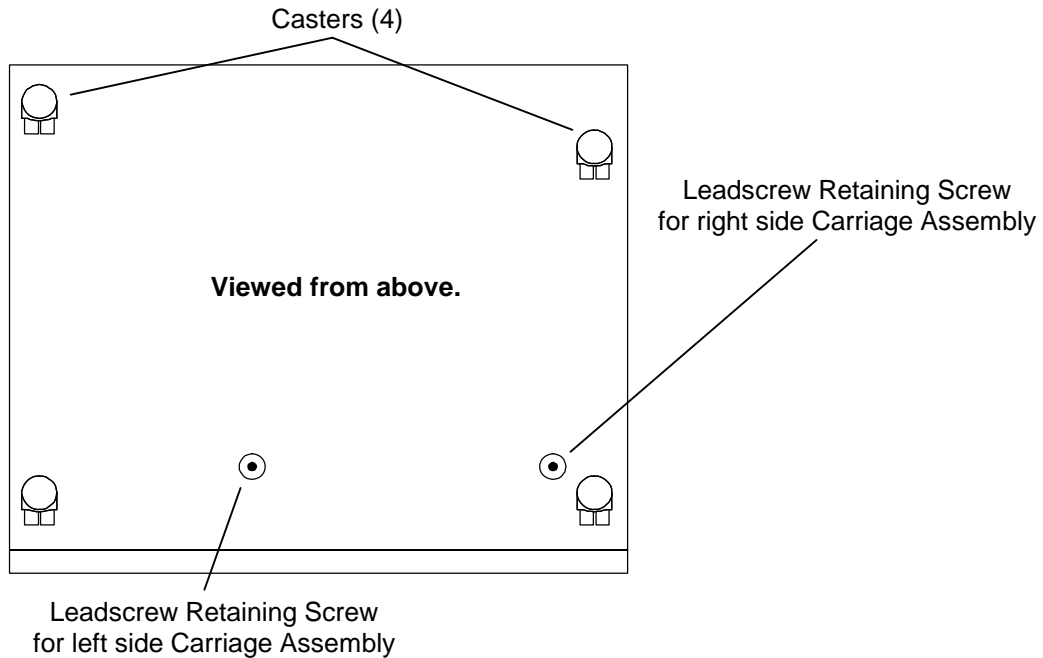

Figure 7-10 Location of Bottom Leadscrew Retaining Screws
5. Using a small mirror and a small flashlight if needed, locate the bottom Leadscrew retaining screw, corresponding to the carriage you wish to remove, on the bottom of the TLS (Figure 7-10).
6. Use a 1/8-inch L-shaped Allen wrench to remove the Leadscrew retaining screw (Figure 7-10).
13. Using a small mirror and a small flashlight if needed, locate the bottom Leadscrew retaining screw hole on the bottom of the TLS (Figure 7-10).